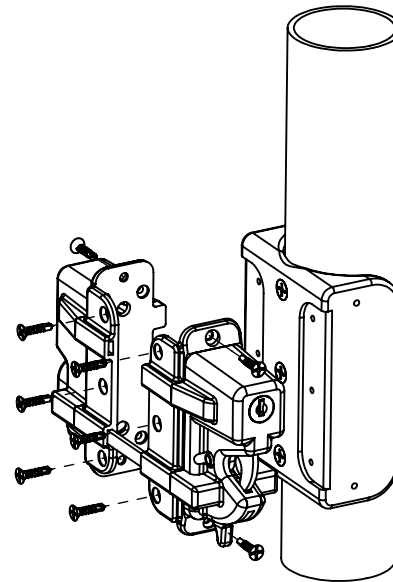

Fig. 2
5. Following the **"KLX" Gate Latch Instructions** and using the **"SPINDLE CUT LENGTH"** for a **3-1/2" Post**, mount the Latch to the Installed Latch Mounting Bracket. **(Fig. 2)**